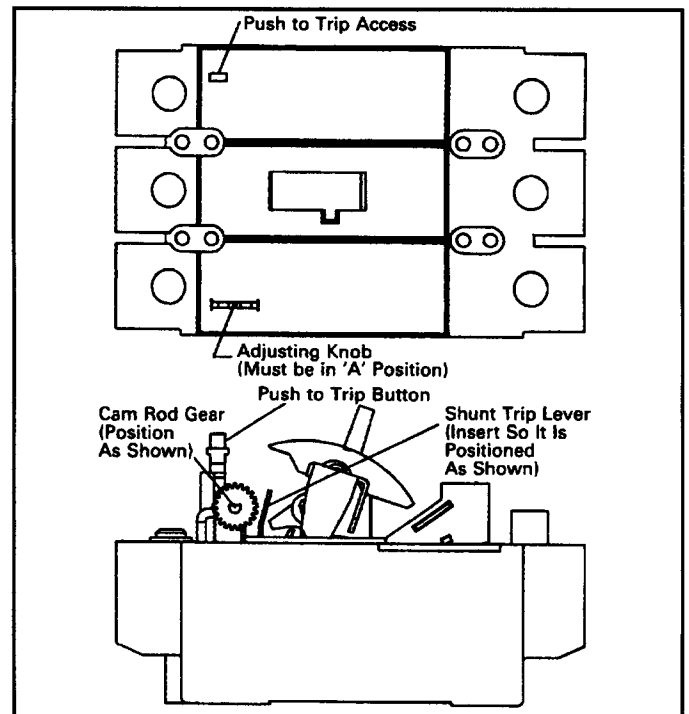

Fig. 2-5
- **CAM ROD GEAR IS POSITIONED AS SHOWN IN FIG. 2-5.**
- **RED ADJUSTING KNOB IN COVER IS POSITIONED TO THE "A" SETTING (SEE FIG. 2-5).**